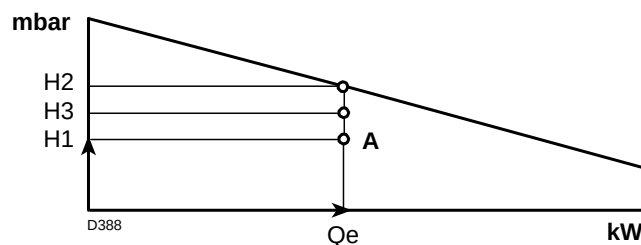

Fig. 40
point A that must remain within the firing rate (Fig. 40).
- 4 -Trace a vertical line from point A, Fig. 40, and find the maximum pressure H₂ of the firing rate.
If H₃ is greater than H₁, as in Fig. 40, the burner can produce the delivery requested.